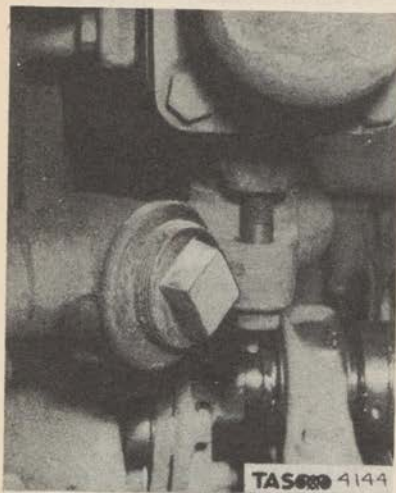
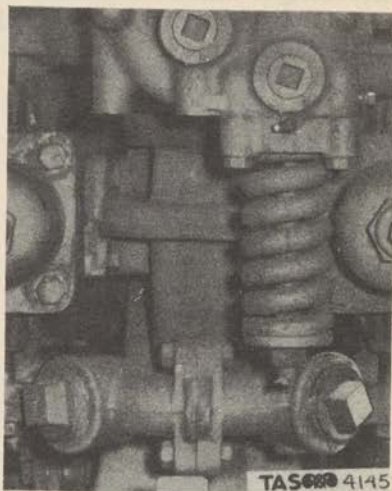

Figure 172. Right Front Intake Manifold Drain.
Figure 173. Left Rear Intake Manifold Drain Plug.
(6) Remove a 2-1/2-inch drain plug located in the intake manifold under the right front of the pump (fig. 172) and a similar one under the left rear of the pump. (Fig. 173) (Two small drain plugs are also found on the under side of the intake manifold, but these need not be removed inasmuch as the removal of the two larger ones accomplishes the purpose better.)